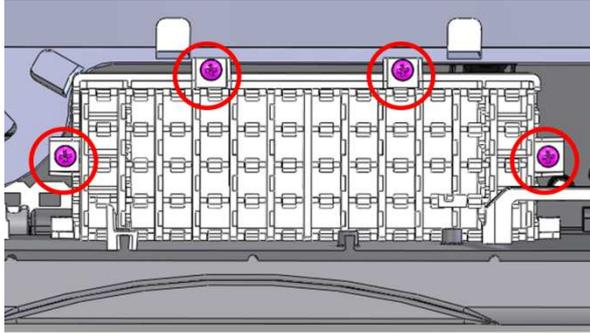

Figure 23
1.6.1 Unscrew the parking support for the splitters (Fig. 23). Maintain the screws in a safe place in order to attach them back in place at the end of the installation.